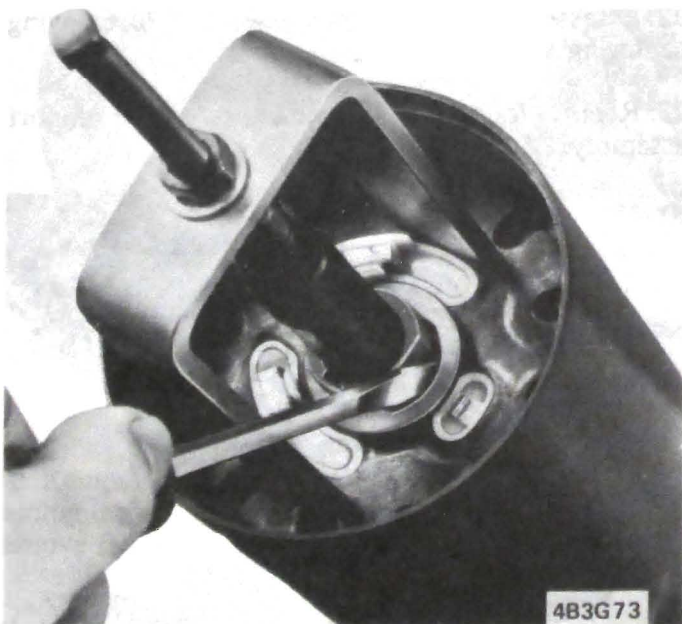

Figure 3G-73 Removing "C" Ring
7. Use carrier and spring removal J-23063 and pull "C" ring, shaft lock, carrier and spring. Figure 3G-73. If there is an Allen plug in the upper shaft, remove and discard.